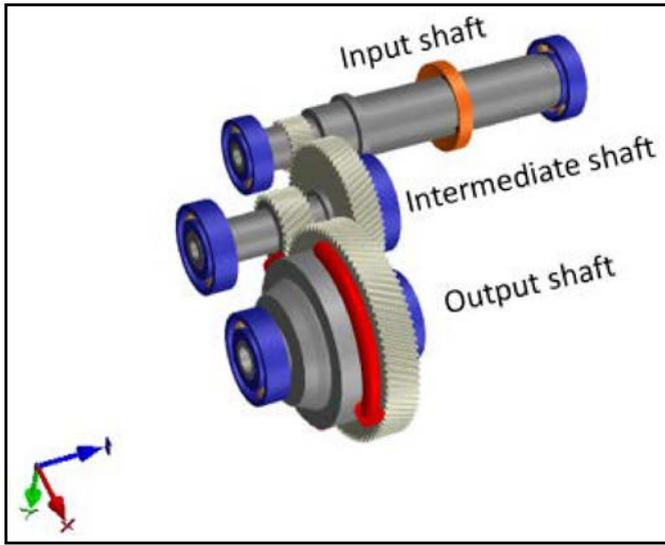

Figure 1 Layout of the gearbox.
**Figure 1** Measured S-N curve for a probability of damage of  $P_a = 50\%$  (cyan). S-N curves along ISO 6336 for probability of damage  $P_a = 1\%$  (blue). Normal distribution of life in the limited life domain (pink). Normal distribution of endurance limit in the long life domain (yellow).
mean value for  $\sigma_{Flim}$  with  $P_{\bar{u}} = 50\%$  (as originally measured in experiments) and the value for  $\sigma_{Flim}$  with  $P_{\bar{u}} = 99\%$ , a distance of  $-2.326\sigma$  exists. (See Fig. 1 black vertical arrow between grey lines denoting S-N curve for  $P_a = 50\%$  and  $P_a = 1\%$ . Or:  $\sigma_{Flim}(P_{\bar{u}} = 99\%) = \sigma_{Flim}(P_{\bar{u}} = 50\%) - 2.326 \cdot 6\% \cdot \sigma_{Flim}(P_{\bar{u}} = 50\%)$ , giving  $\sigma_{Flim}(P_{\bar{u}} = 99\%) = 0.86 \cdot \sigma_{Flim}(P_{\bar{u}} = 50\%)$ ).
For this study we chose a high-speed electric-vehicle gearbox with two helical gear stages to perform our investigations. The gearbox consists of an input shaft, intermediate shaft, and output shaft connected by two gear pairs (Fig. 1). All three shafts are supported by rolling element bearings. Input shaft is driven by an electric motor. The rotor of the electric motor is mounted on the input shaft. The output shaft is essentially a differential, but to simplify, the side pinions and side bevel gears are not captured in the model. Since the vehicle is driven by the output shaft, a high inertia ( $2\text{kgm}^2$ ) is appended to the output shaft to represent the vehicle inertia. The gear geometries of the input and output gear pairs are tabulated in Tables 1 and 2.